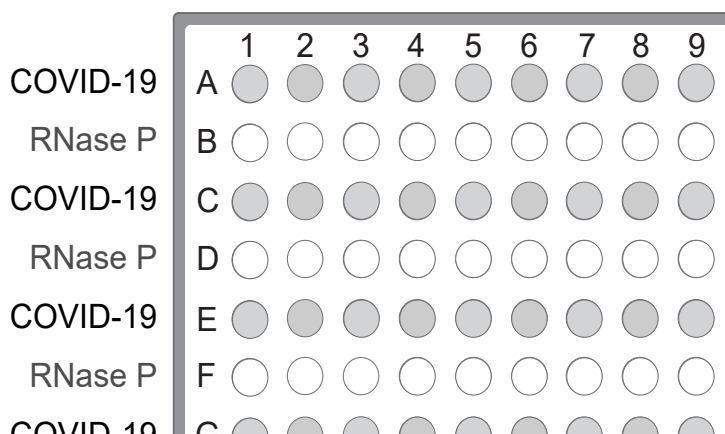

Figure 1 Assays in alternating plate rows
- a. Starting with row A, pipet 15.0 μ L per well of the COVID-19 Reaction Mix into every other row of a MicroAmp™ Fast Optical 96-Well Reaction Plate with Barcode, 0.1 mL or a MicroAmp™ Optical 96-Well Reaction Plate with Barcode, 0.2 mL. See Figure 1 on page 49.